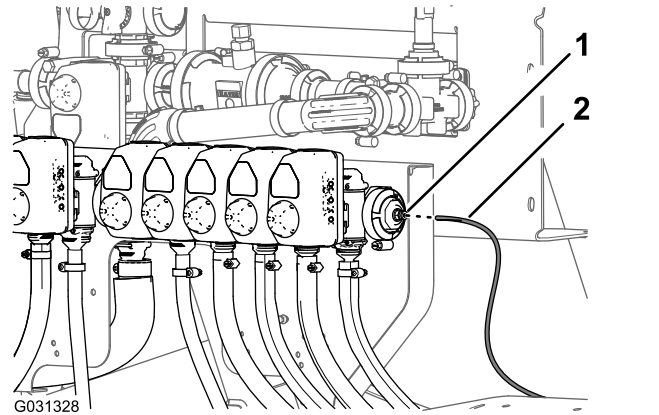

Figure 145
1. Align the end of the pressure-sense tube (plastic) for the pressure gauge in the dash with the locking collar for the tube coupler (Figure 145).